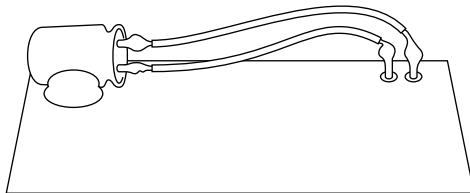

FIGURE 11-3: Reconnect the component by soldering wires between it and its original leads.
3. Solder the wires between the component's leads and the spots on the circuit board where the component was originally located. This should be easy because you left little wire stubs behind when you first clipped the leads (see Figure 11-3).